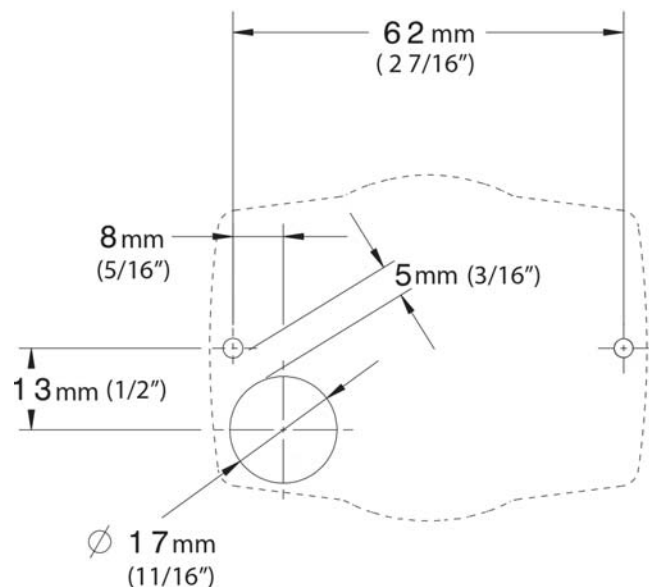

Figure 32. SmarTemp drilling dimensions
- Use the drilling dimensions (fig. 32) to lightly mark the two mounting holes.